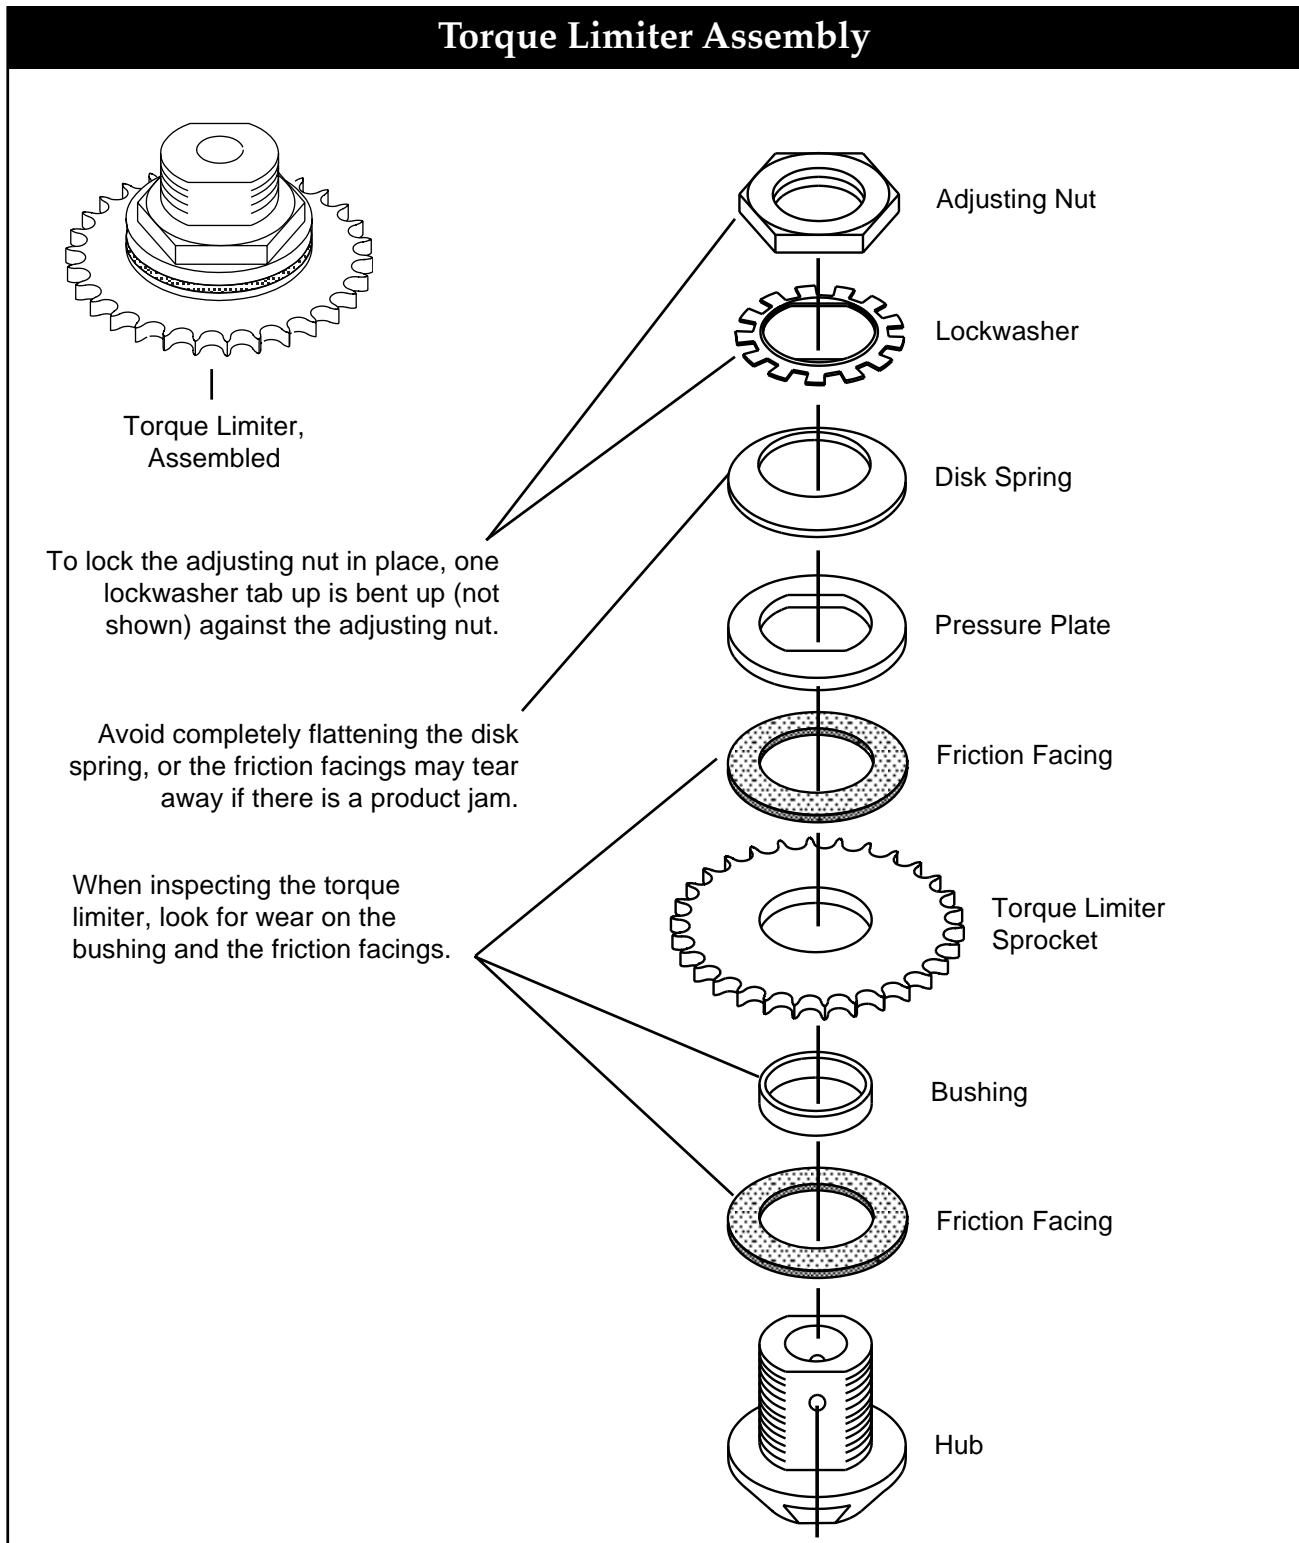

Figure 5-1. Torque Limiter Assembly
Step 3—Remove Torque Limiter. Remove and disassemble torque limiter. (See Figure 5-1) Inspect and replace any broken or worn parts. Observe order of components.
Step 5—Install Torque Limiter. Install the torque limiter. Tighten the adjusting nut (see Figure 5-1) down until the bowl turns when power is applied with minimum slippage. Do not completely flatten the disk spring. Also do not lock the adjusting nut yet. You will lock the adjusting nut after turning on the motor. Some slippage must occur to prevent damage, however, there should be no slippage if the bowl is at maximum rotation.
Step 5—Assemble Output Shaft. The output shaft on the metric speed reducer comes as a separate kit. If replacement is required, clean both contact surfaces before assembly and apply any appropriate anti-seize compound to avoid oxidation (rust) and possible seizing of parts. Slide the torque limiter assembly down onto the reducer output shaft until it bottoms out against the roll pin (see Figure 5-1). Tighten setscrew. The speed reducer used in the metric FT-20-RD feeder is lubricated for life with synthetic lubricant and requires no filling before use.